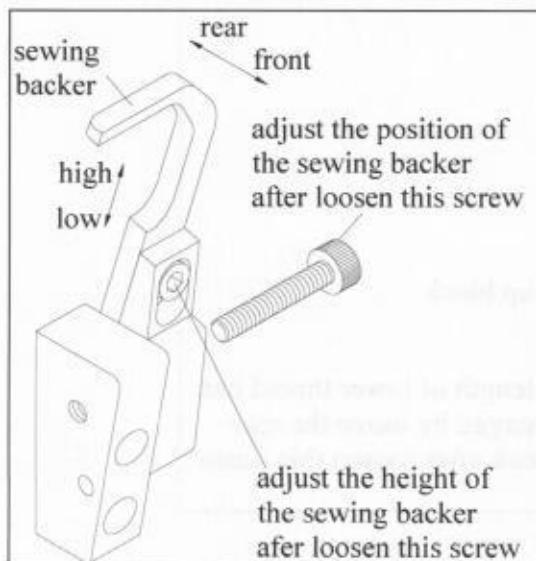

Fig.14
4.9 Adjustment of the sewing backer(Fig.14):
The position of the sewing backer can be adjusted after loosen the screw A or screw B (The detail is indicated in Fig.14).